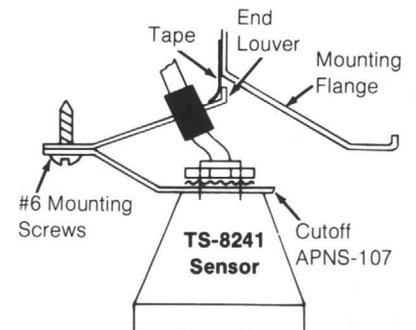

Figure 5
- c. Fig. 5. Locate hole center on an end louver about 1/2" from the junction of the louver and the mounting flange.
- c. Fig. 5. Drill one hole on end louver.
Fig. 5. Cover the crack between the end louver and mounting flange at least 12" on each side of the sensor. A 24" length of 3/4" tape stuck to mounting flange can be used.